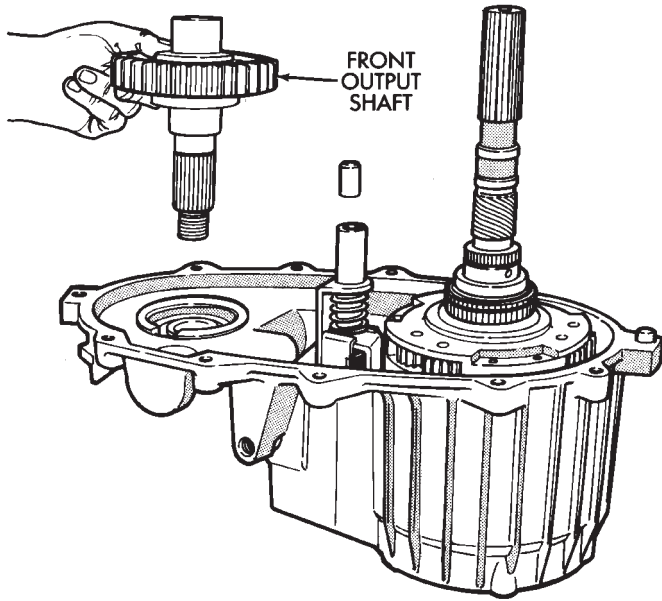

Fig. 18 Removing Front Output Shaft
(23) Remove front output shaft (Fig. 18).